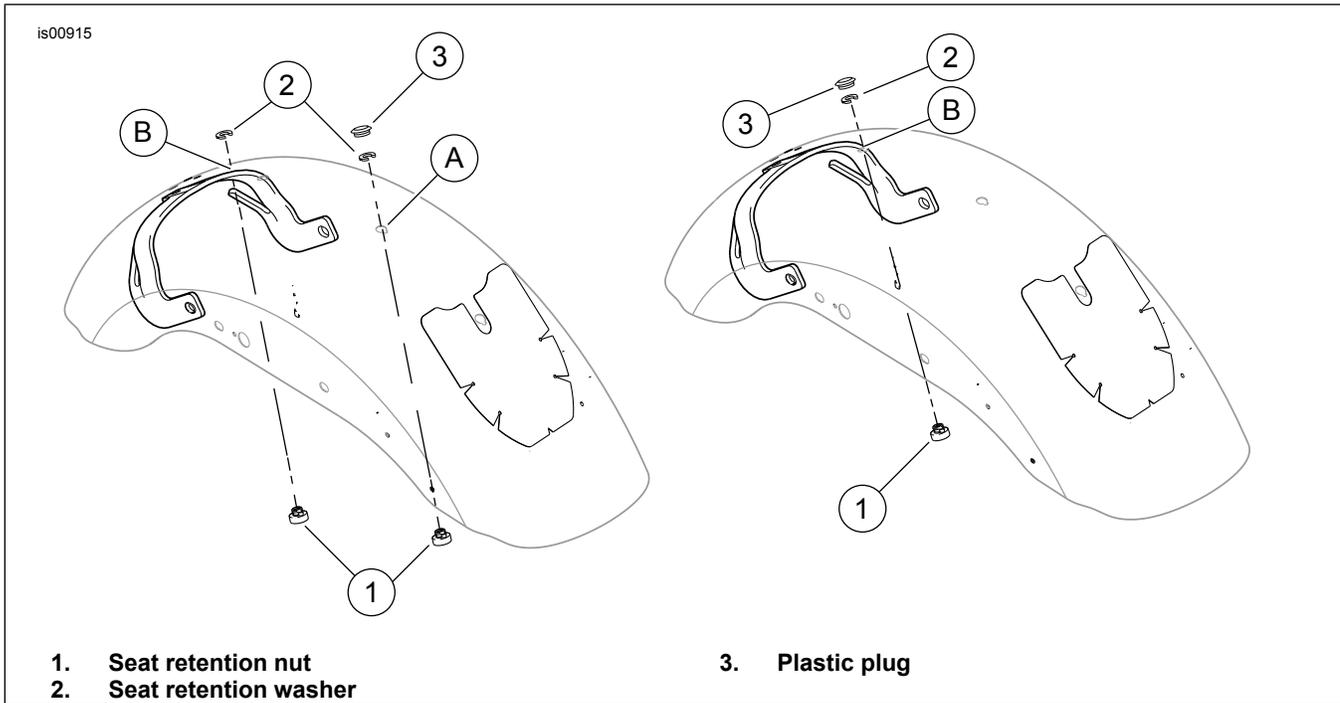

Figure 1. Seat Retention Nut and Washer Locations
2. **Kit 51539-04 on XL883C and XL1200C models:** See Figure 1. Seat retention nuts and washers are required in both the middle and rear fender holes as shown. If only one additional nut is required, use the kit nut. If two are required, the nut must be removed from the front fender hole and used in the middle or rear location. **Kit 51546-04 on XL883 (and XL1200R with XL883 stock seat installed) and Kit 51810-05 on XL883L** See Figure 1. The seat retention nut and washer are required in the rear hole only. If the retention nut is not present at the rear hole location, remove the retention nut from the center fender hole and install it in the rear hole.
3. Place the stock seat (on XL883 and XL883L models) or the solo accessory seat (for XL883C and XL1200C models) upside down on a work surface and fasten the passenger pad (4) to the bottom of the solo saddle with two hex head flange screws (6) and two flat washers (5). Tighten the screws securely.
4. Place the stock seat (on XL883 and XL883L models) or the solo accessory seat (for XL883C and XL1200C models) upside down on a work surface and fasten the passenger pad (4) to the bottom of the solo saddle with two hex head flange screws (6) and two flat washers (5). Tighten the screws securely.